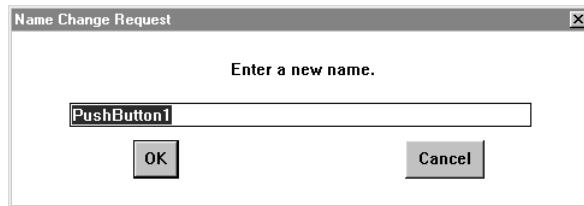

Figure 50. Name Change Request Window for a Push Button Part
3. Select **Change name**. A Name Change Request window is displayed. Figure 50 on page 134 shows a Name Change Request window for a push button part.